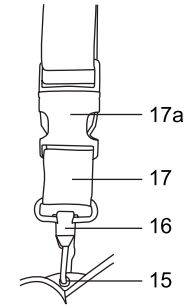

Fig 5
1. Place the harness (17) on one of the shoulders.
2. Attach the clip (16) of the harness (17) to the hanging hole (15) on the upper side of the motor unit. (Fig. 5)